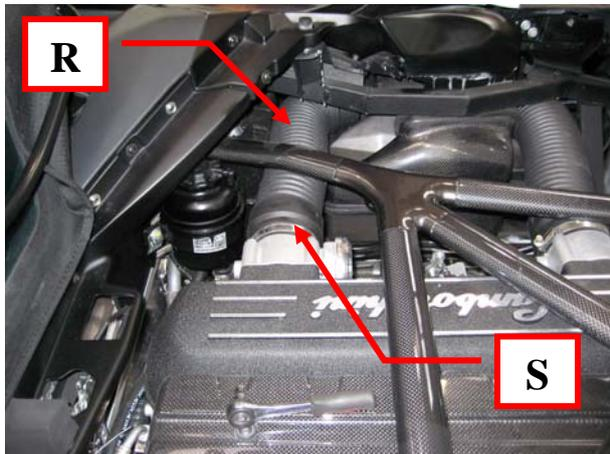

Fig. 14
- Connect the right front hose (**R-Fig. 14**) to the throttle body and tighten the clamp. (**S-Fig. 14**).